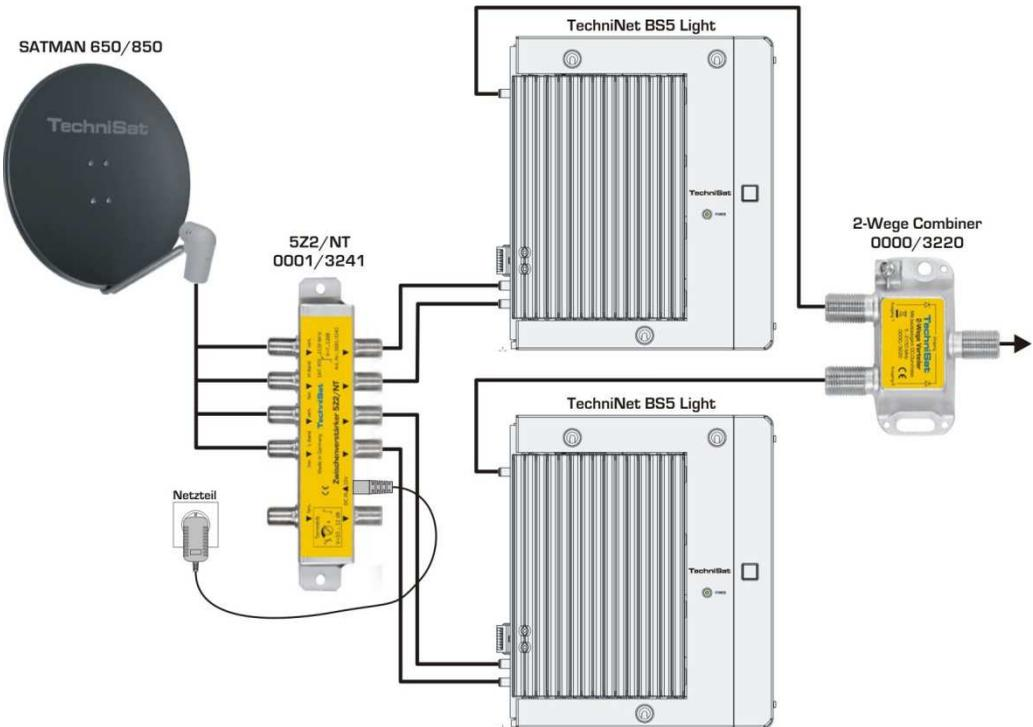

Abb. 4: Exemplary montage of two BS5 Light
- When operating two BS5 Light units ensure that the relevant output blocks do not overlap. The output signals of the two head-units can then be combined with distributors of the 0000/3200; see the example in Fig. 4.!